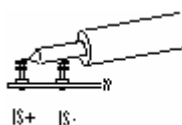

Figure 2. Measuring Voltage Across R25
2. With power off, connect a LED between V_{OUT} and GND or between V_{OUT} and LED- if fast rise time is to be verified. When returning LED to LED-, R25 needs to be populated. To check voltage across R25, the best set up is to solder a short 50Ω coax cable across R25. Connect the other end of the cable directly into a BNC connector on an oscilloscope. A less perfect but easier set up is to touch the probe tip directly across the IS+ and IS- terminals with out the probe ground wire. See Figure 2 for setup. The latter set up tends to have more noise but is ok for non-critical measurements. The LED connecting wires should be as short as possible, 1 inch total being ideal.